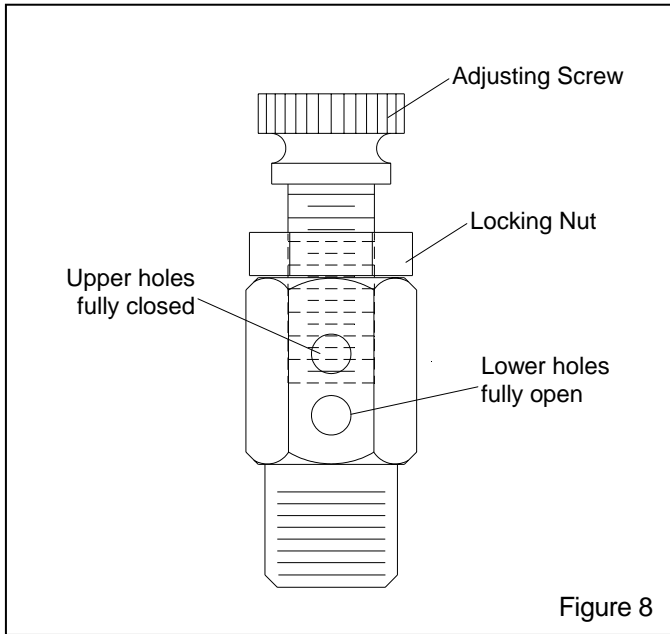

Figure 8
5.4 Metering Valve Adjustment, Figure 8
5.4.2 If media does not flow smoothly, loosen the locking nut, and adjust the metering screw until the upper holes in the metering stem are closed-off, and the lower holes are fully open. See Figure 8. This adjustment is a starting point.